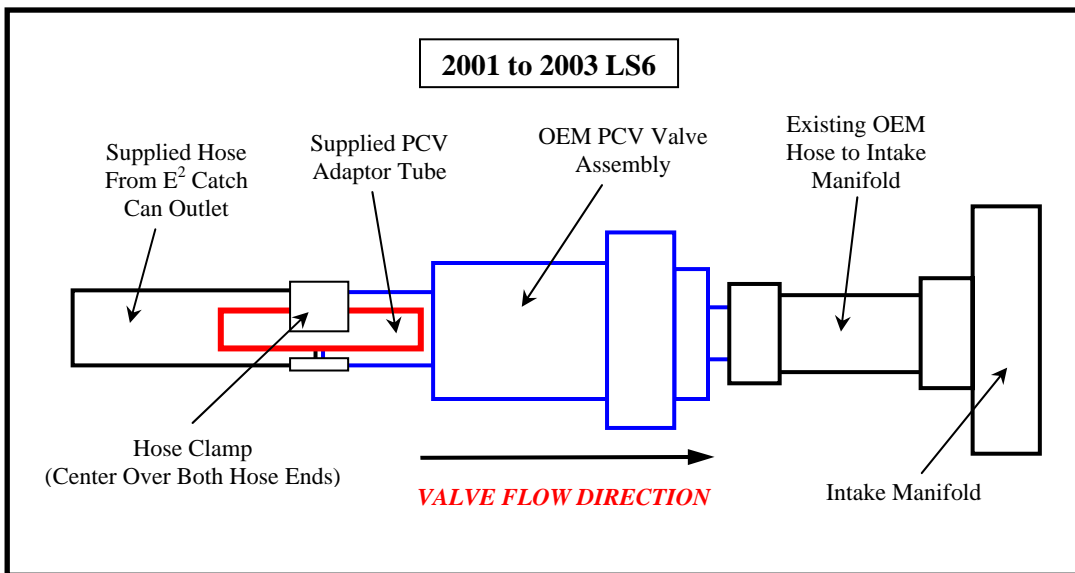

Figure 3 – LS6 PCV Valve Configuration
- (**Reference Figure 3**) Slide a supplied hose clamp over each end of the hoses cut above. Connect the hose from the valley cover hose fitting to the Catch Can inlet fitting (top location). Install the supplied 3/8" OD by 1.0" long adaptor tube half way into the OEM PCV valve assembly's rubber fitting. Connect the other hose from the Catch Can outlet fitting (side location) to the adaptor tube at the PCV valve. Reposition hose clamps to ensure a good seal, while noting the specific clamp location at the adaptor tube connection.